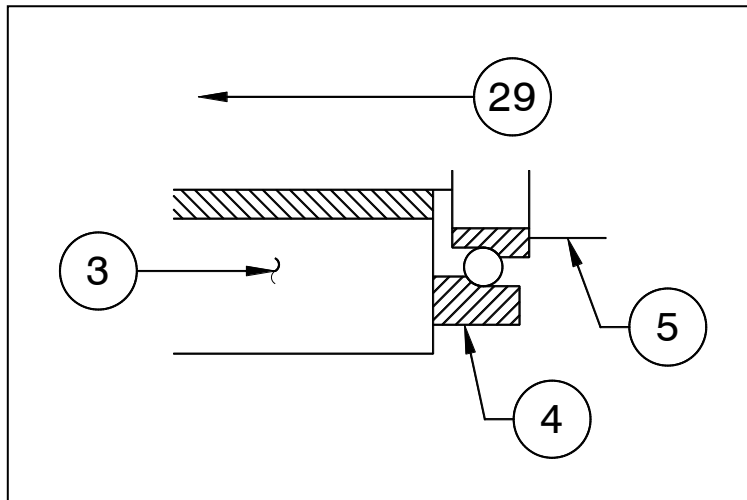

Figure 4.7f
- g. Set the sliding bearing seat stop rod assembly (8) in place in the worm housing.
- h. Install the reverse thrust bearing (4), referring to Figure 4.7f, and ensure the outer roll must thrust against the bushing housing as shown. Seat it against the worm. Use a driver if the fit is tight.